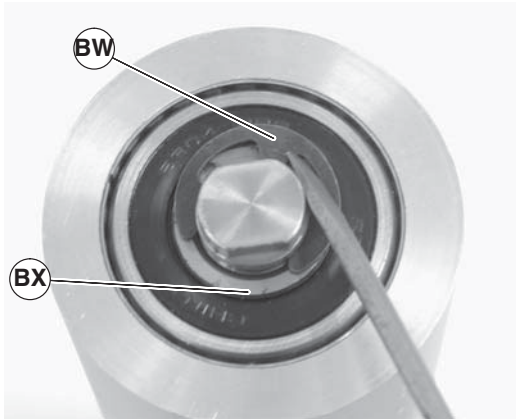

Figure 73
6. Remove the pulley shaft assembly: remove the clip ring (Figure 73, item BW) and washer (BX) from one side of the pulley assembly.